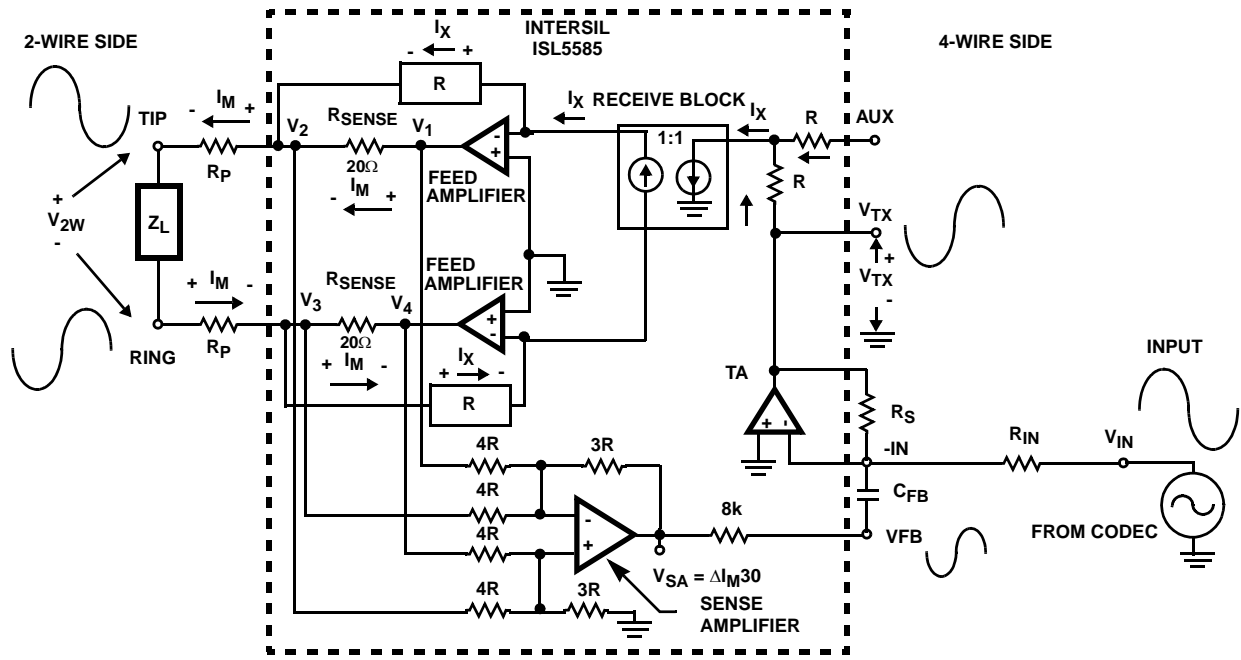

FIGURE 6. 4-WIRE TO 2-WIRE SIGNAL PHASE ACROSS THE ISL5585
Figure 6 illustrates the phase of the input signal across the ISL5585 when the signal is applied at the -IN pin of the ISL5585 through the  $R_{IN}$  resistor. The Transmit Amplifier (TA) inverts the signal 180 degrees at the VTX pin. The feedback around the tip amplifier inverts the signal again on the tip lead. The input signal will cause AC loop current to flow through the 20  $\Omega$  sense resistors in the direction from V1 to V2 and V3 to V4. This results in an inverted signal (referenced from tip) on the VSA and thus the VFB pin. This out of phase signal is the signal used by the feedback path to match the line impedance of the 2-wire side.